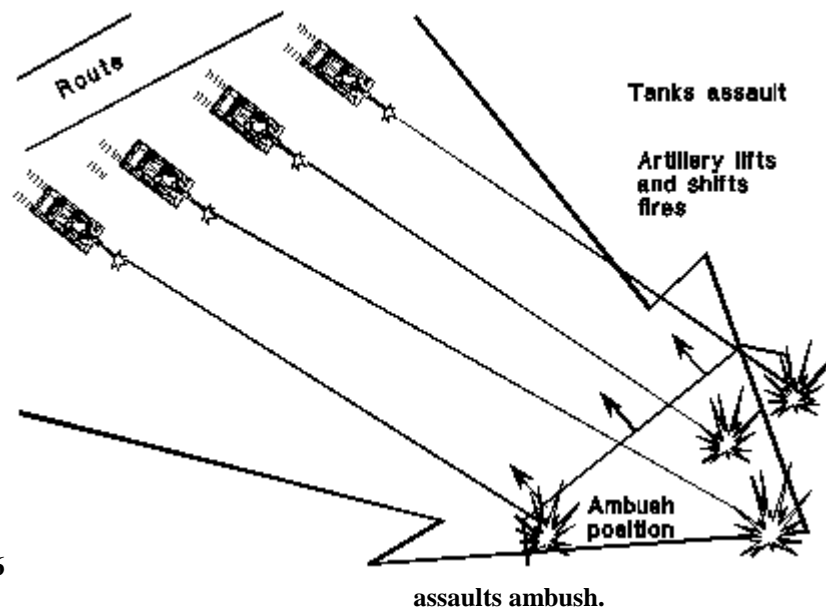

Figure 5-9B. Escort
- Assault the enemy (see Figure 5-9B).